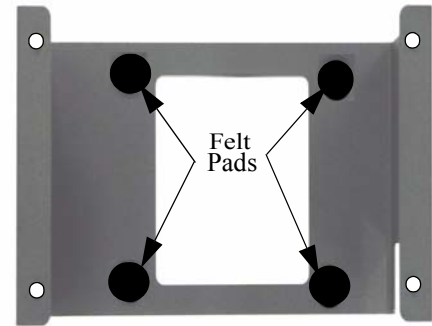

Figure 1. Attach Adhesive Round Felt Pads
1. Install four self adhesive round felt pads on each side of the square filter cutout in the cradle bracket (see Figure 1).